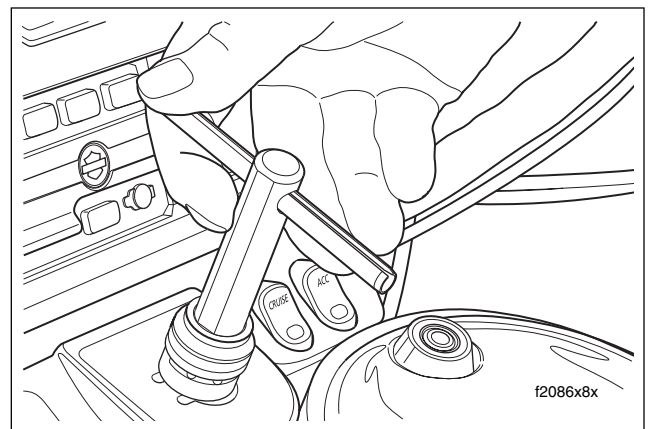

Figure 8-73. Bottom Alignment Tool in Threaded Post and Rotate to Desired Position
After removal of the knob, the IGNITION SWITCH ALIGNMENT TOOL (HD-45962) may be used to move the switch to other positions as required. Insert tool until bottom of handle contacts top of threaded post, and then rotate handle in a clockwise direction to the selected position. See Figure 8-73.
- a. Insert alignment tool until bottom of handle contacts top of threaded post, and holding front forks at the left fork stop, rotate handle of tool in a counter-clockwise direction until fork locks. See Figure 8-73.